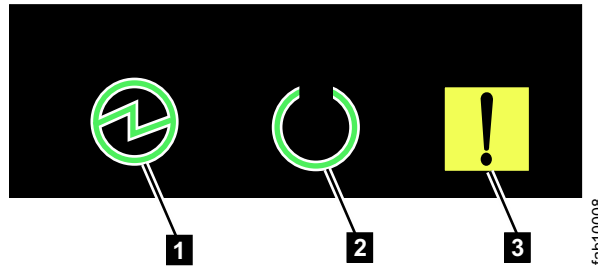

Figure 76. Power LEDs on a node canister
3. Wait for the power LEDs on all node canisters in all control enclosures to blink at 1 Hz, indicating that the shutdown operation completed, as shown in Figure 76 on page 281.